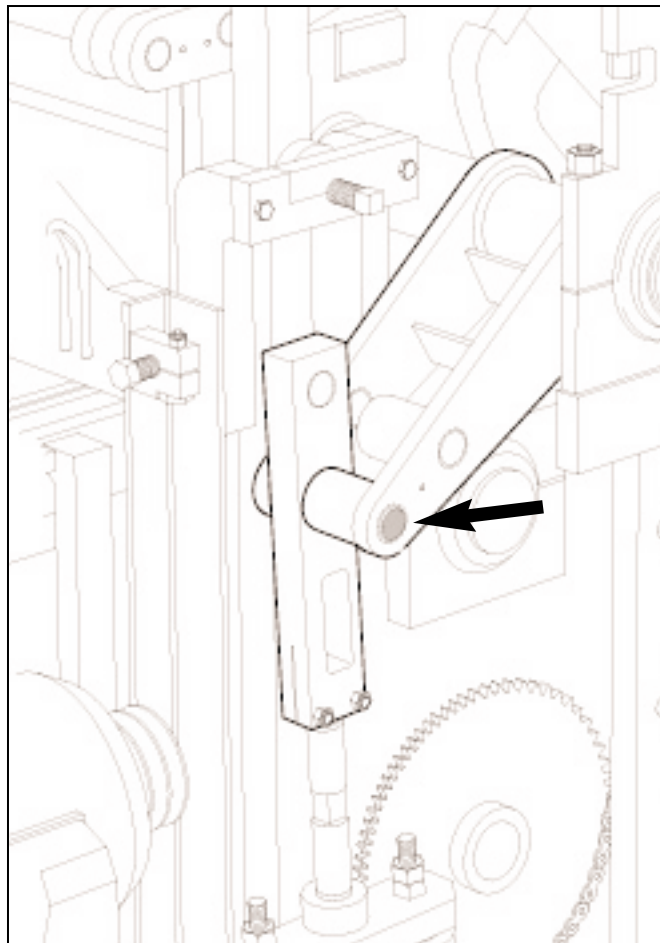

Figure 4.6 POSITIONING PINS IN OUTER HOLES.
- 4.1.13 Position the pins in the outer holes of the pallet receiver shaft arms (see figure 4.6)